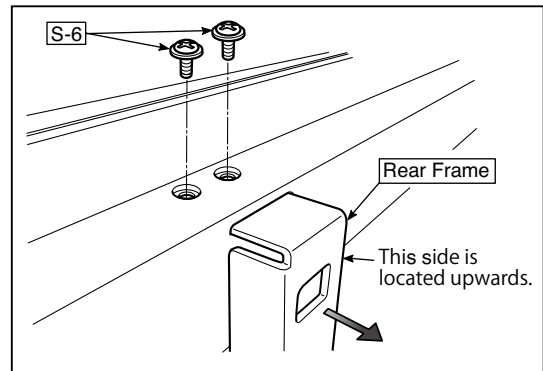

Fig.22
8) Remove the Rear Frame. (See Fig. 22)
1. Remove the "S-6" screws shown in the figure 22 and then remove the Rear Frame (two).